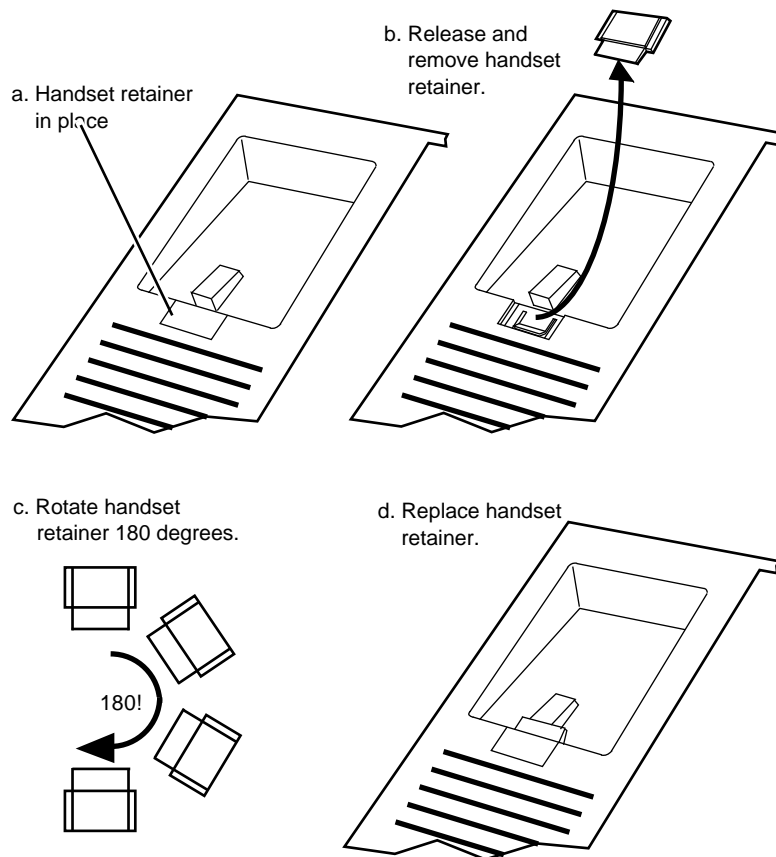

FIGURE 7-8. Reversing the Handset Hook
4. Rotate the hook and slide it back into its slot so that the bottom part now sticks out from the top. Snap the hook firmly into place. (See Figure 7-8.)